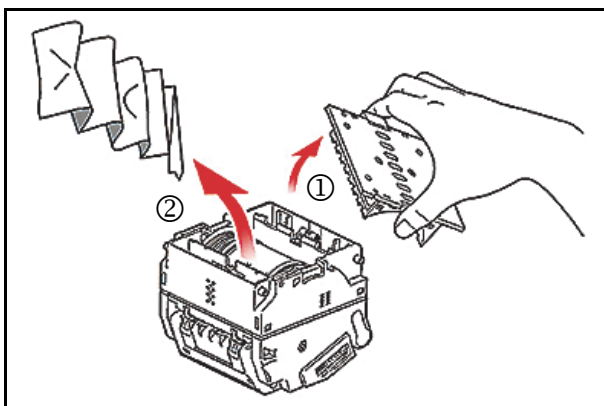

Figure 2-10 Lower Area Banknote Jam Removal
3. Remove the Lower Lid by pressing-in on the Lower Lid Lock Release Button (See Figure 2-10 ①).
4. Remove the jammed Banknote as illustrated in See Figure 2-10 ②.